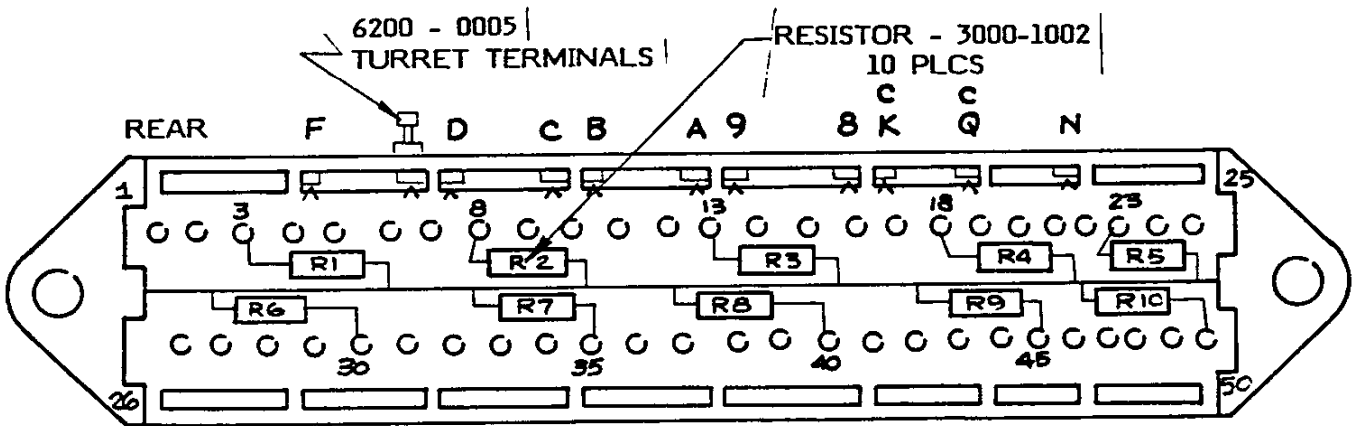

Figure 6.20 Alignment Housing A Resistor Placement
4. Solder resistors to common bus wire as shown in Figure 6.20.